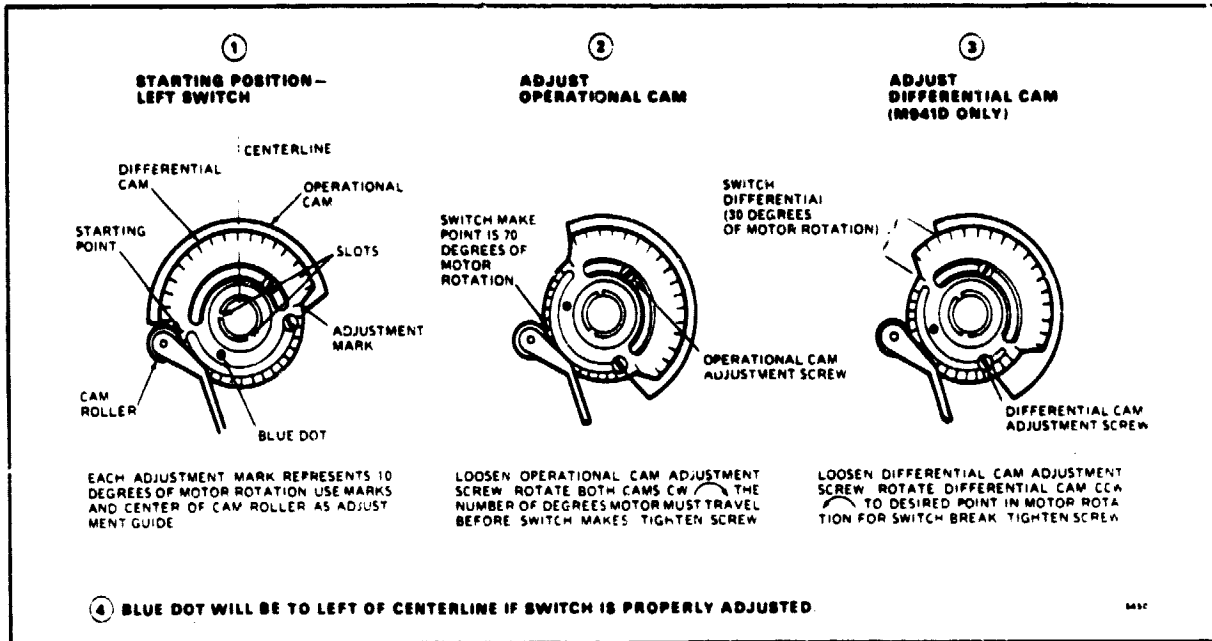

FIG. 10-ADJUST MAKE AND BREAK POINTS OF LEFT AUXILIARY SWITCH.
5. Adjust left switch (inner cam) first. See Fig. 10